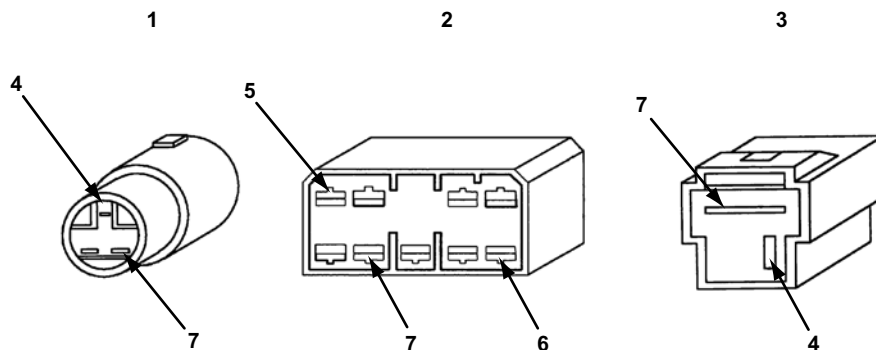

Figure 13-2 Diagnostic connectors for most 1987 and earlier vehicles
- Use Figure 13-2 and Table 13-2 on page 146 to locate and connect to the diagnostic connector for most 1987 and earlier models.